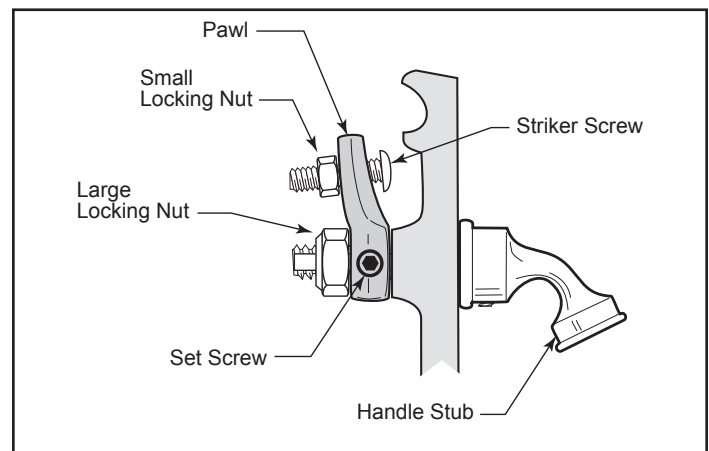

Figure 12 - Turn the door latch striker screw in or out to tighten or loosen the door latch.
1. Loosen the small lock nut with a 7/16" wrench. (Figure 12)